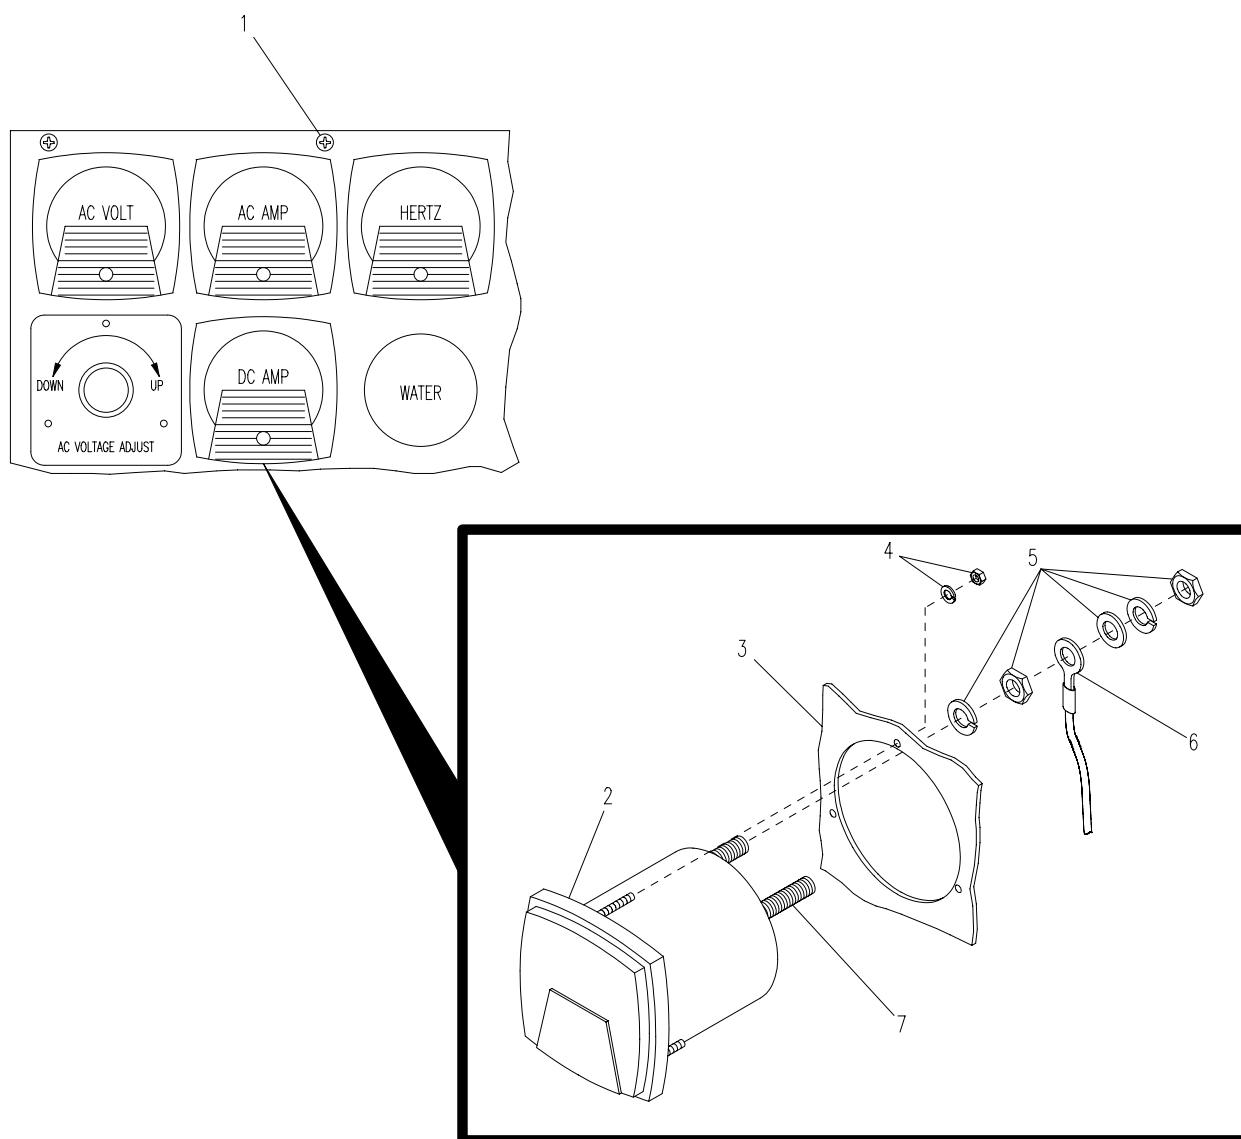

Figure 4-45. Electrical Meters
- a. Remove ten screws (caged nuts (SICPS), machine screws (JTACS and WIN-T)) (1, Figure 4-45) securing APU control unit cover to chassis and remove.
- b. At rear of meter (2), identify and tag terminal leads (6).